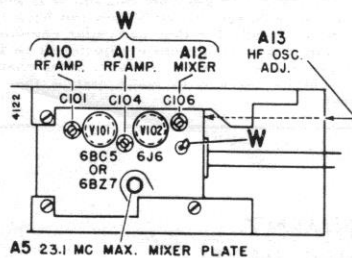

Figure 11. Top of TV Tuner, Showing Adjustment Location.
- c. Connect oscilloscope through a 10,000 ohm resistor to test point "W" on tuner (Fig. 11). Keep scope leads away from chassis.
- c. Connect oscilloscope through a 10,000 ohm resistor to test point "W" on tuner (figure 11). Keep scope leads away from chassis.